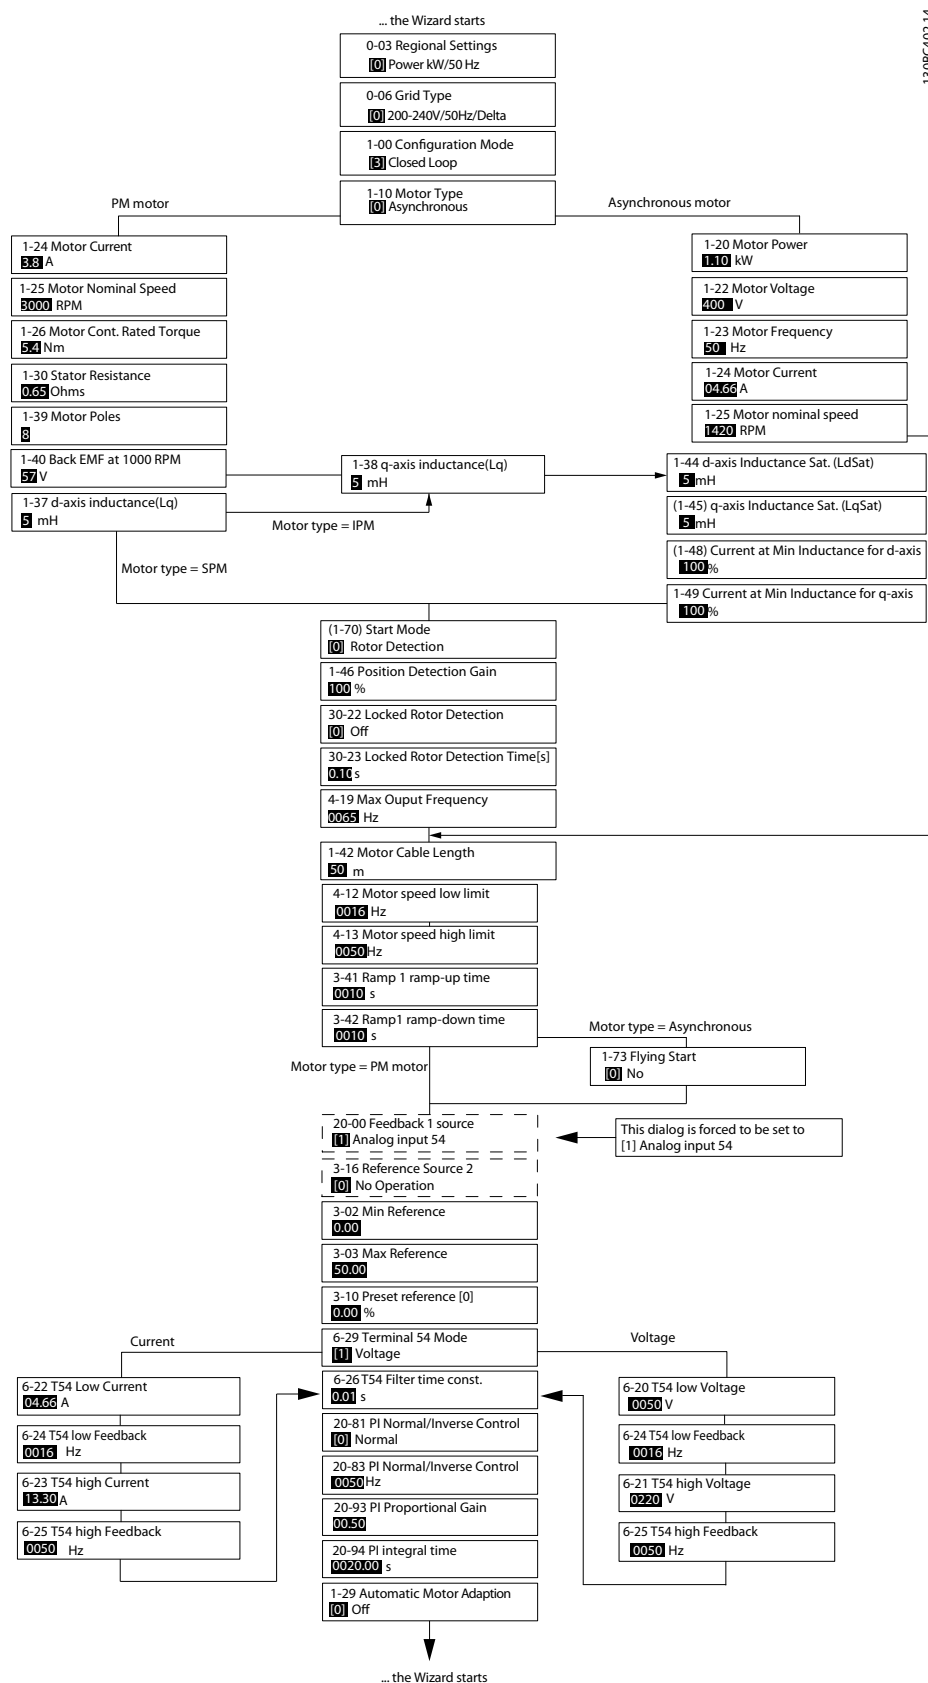

Figure 2.5 Set-up Wizard for Closed-loop Applications
- Wizard for closed loop applications. See *Figure 2.5* for details.